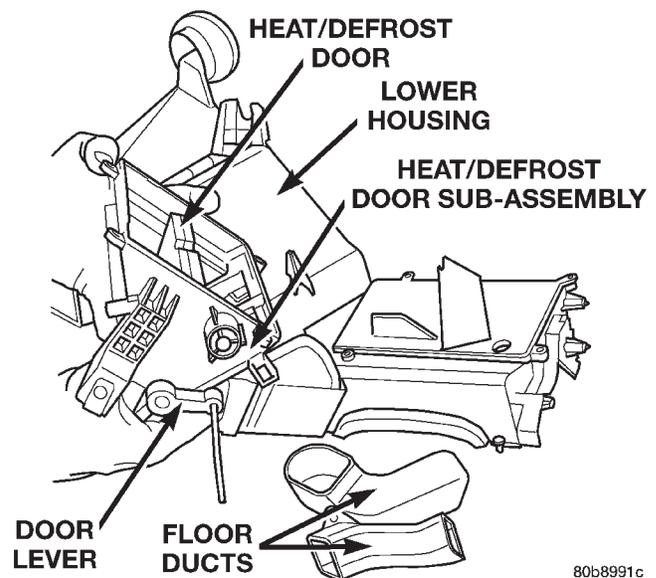

Fig. 45 Heat/Defrost Door Removal
(16) Pinch the retention tabs holding the heat/defrost door pivot shaft lever to the case. The 3 plastic tabs, located on the inside of the case, are part of the shaft retainer.
(17) Remove the heat/defrost door (Fig. 45).